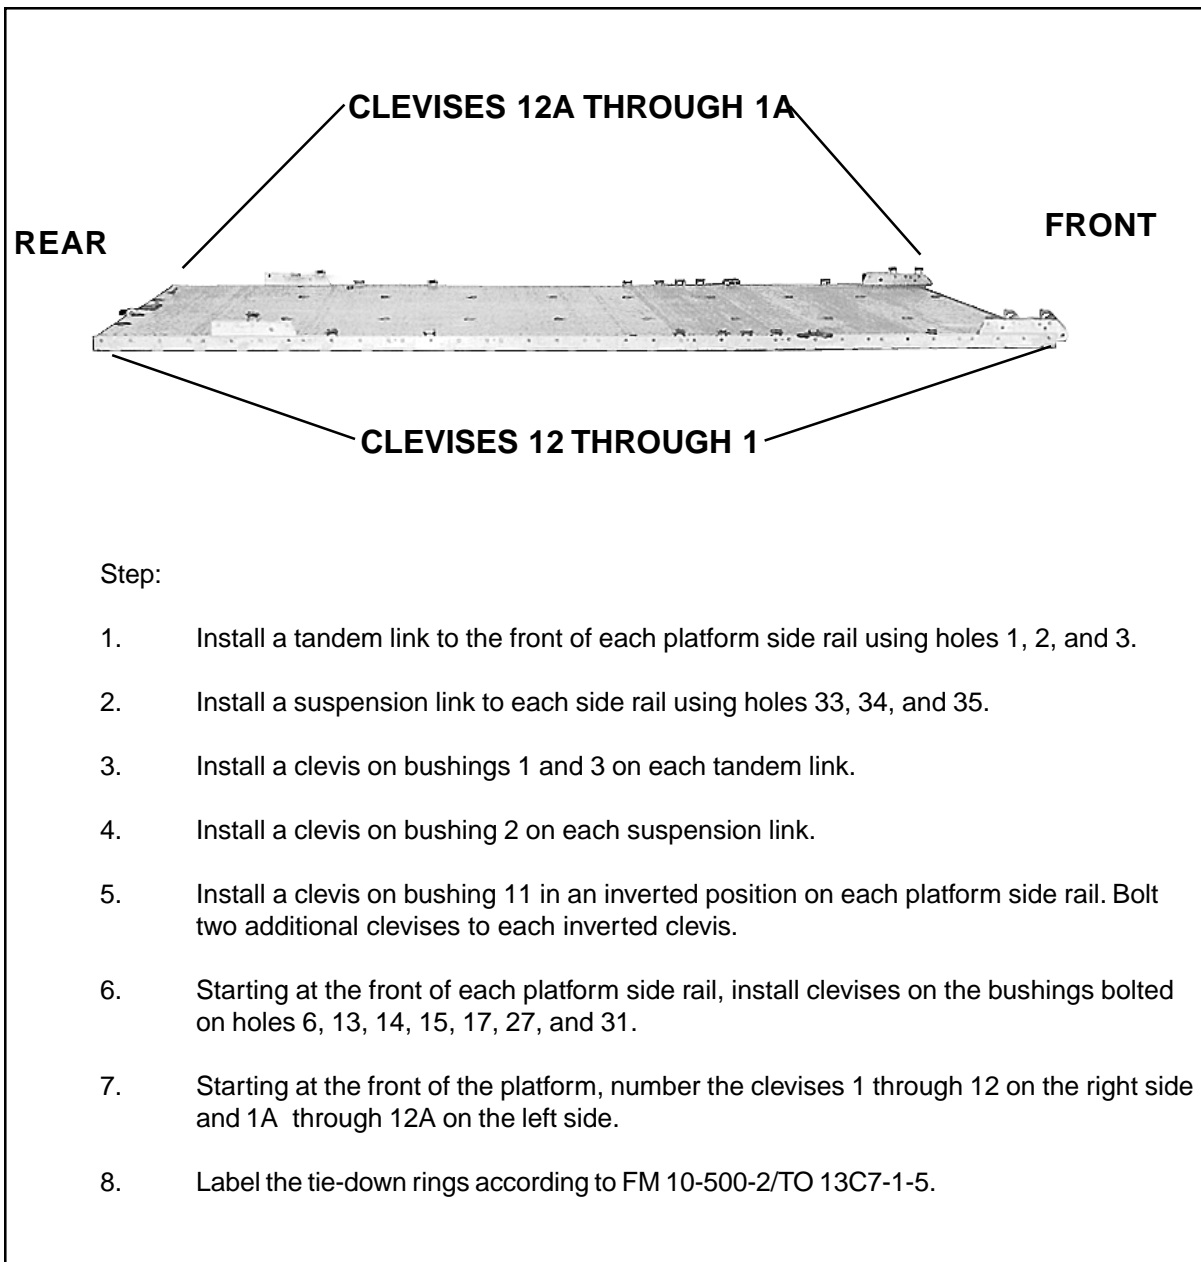

Figure 2-2. Platform Prepared
2-2. Prepare a 20-foot, type V airdrop platform as shown in Figure 2-2.
- Installing Suspension Links. Install the suspension links as described in Figure 2-2.
- Installing Tandem Links. Install tandem links as shown in Figure 2-2.
- Attaching and Numbering Clevises. Attach and number 26 clevis assemblies as shown in Figure 2-2.